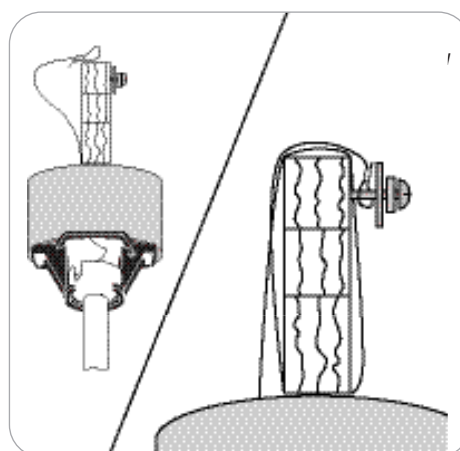

Figure 5.2
2. Install secondary support screw, spring washer and support washer partly into the side of the brace installed in the ceiling. Then loop the braided cable up and over the ceiling brace and place the open loop of the braided cable around the secondary support screw. **Note:** The ceiling support brace may not be accessible from below. If not, it must be accessed from above. **Important:** The braided cable must make a complete circle around the support brace to secure the fan (Figure 5.2).